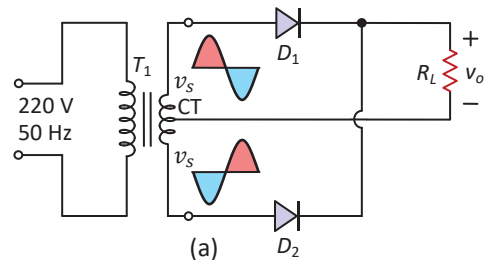

Fig.2-23: Two-diode full-wave rectifier
In **half-wave rectifier**, the load gets power only for one half-cycle of the input AC power. That's why it has low DC and RMS value. But in a **full-wave rectifier**, the load gets power for full-cycle of the input power. A full-wave rectifier with a centre-tapped transformer is shown in Fig.2.23. It uses two rectifier diodes and its input voltage is supplied from a transformer ( $T_1$ ). The transformer must have a tap at the centre (CT).